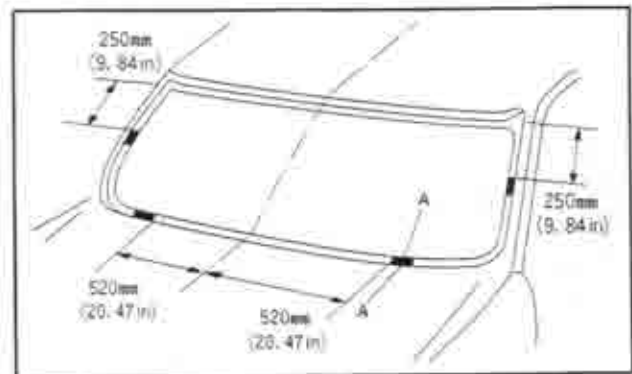

Fig. 14-10 Positions of spacers
4. Bond each spacer to the body with bonding agent. Fig. 14-10 shows the directions and positions of each spacer.
Although a spacer is bonded on both the right and the left hand sides of the windshield glass in Fig. 14-10, a spacer on only one side of the glass should be sufficient.